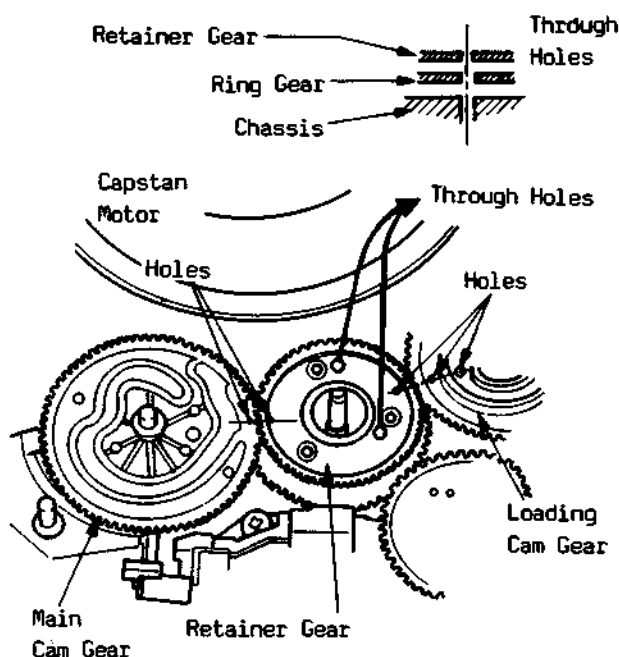

Fig.4-6
- Install retainer gear pos. no. 114(2) on to the ring gear so that the hole of the retainer gear is exactly in line with the hole of main cam gear, at this time, this hole of retainer gear also is exactly in line with the hole of ring gear, and the hole on the chassis. Now, another hole of retainer gear is exactly in line with the hole of loading cam gear as shown in Fig. 4-6. To facilitate aligning the holes use a small hex wrench or a metal pin.